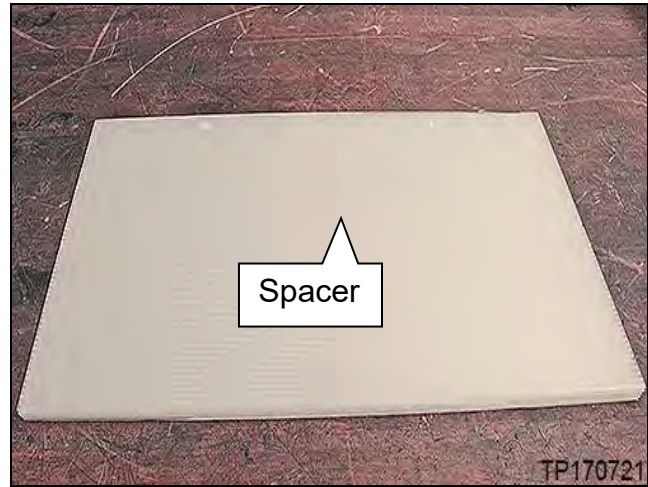

Figure 6N
**IMPORTANT:** Step 7 is for kits that have a separate spacer (Figure 6N). In later kits this spacer will be part of the lower board and step 7 will not be used.
7. Take the spacer (Figure 6N) out of the shipping box and place on the work bench where the sub-assembly will be installed, and then place the lower board on top of the spacer as shown in Figure 7N.